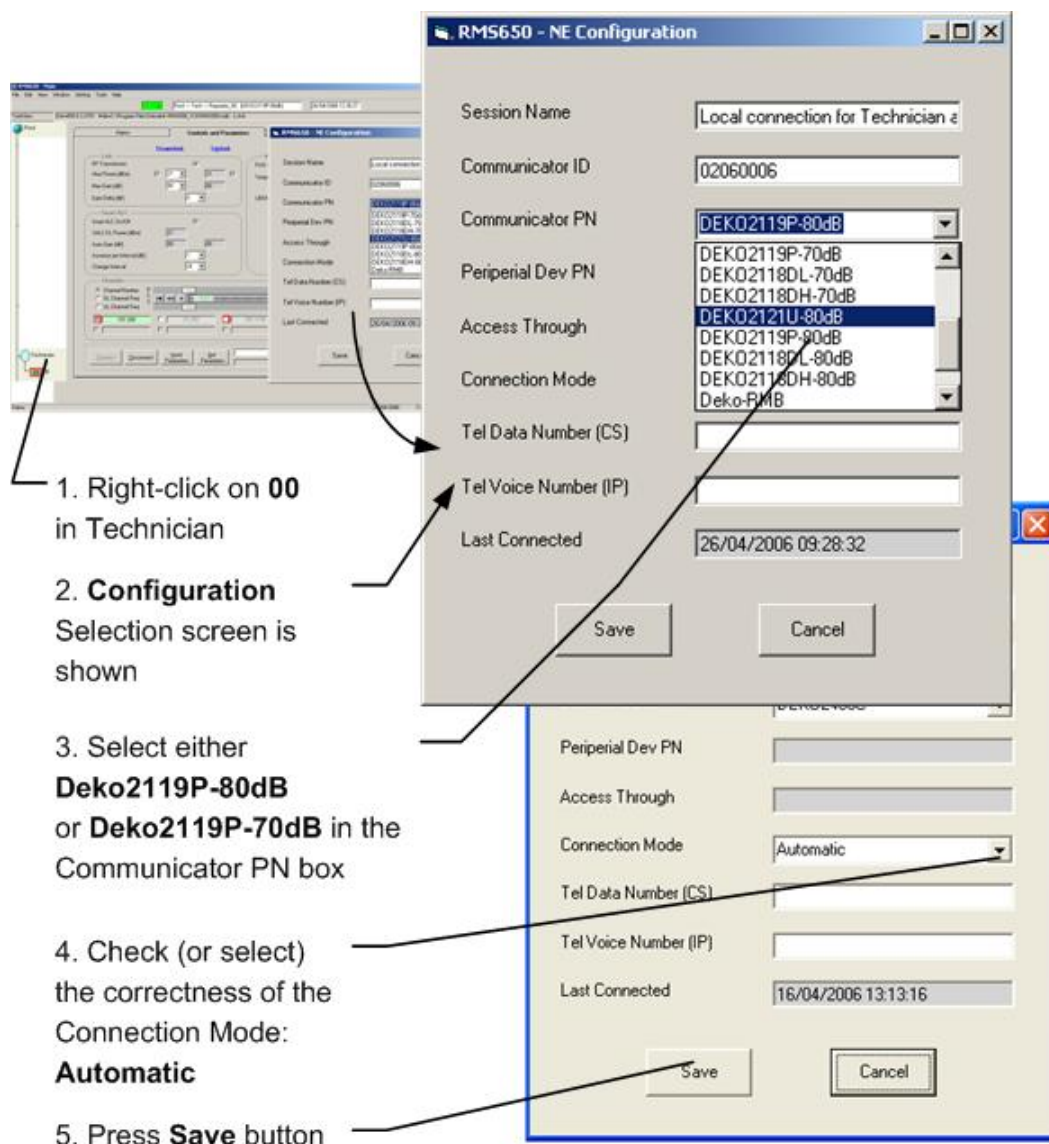

Figure 15: Deko2119 Mini-Repeater – Selection Procedures
1. Drag the mouse tip to the Technician box (see Figure 15) in the Management Tree (at bottom) and right-click on it